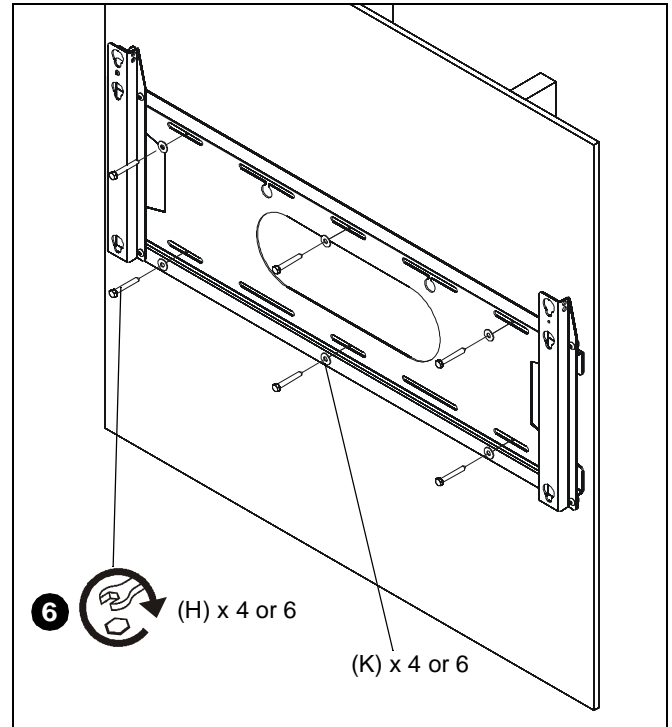

Figure 5
6. Secure mount to studs using 5/16 x 2 1/2" hex head cap screws and 5/16" flat washers. (6 if centered on 3 16" studs and 4 for all other mounting scenarios). (See Figure 5)